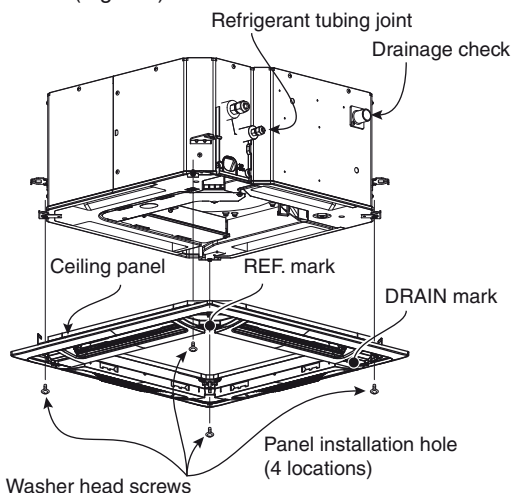

Fig. 7-8
- (2) Align the panel installation holes and the unit screw holes.
- (3) Tighten the supplied washer head screws at the 4 panel installation locations so that the panel is attached tightly to the unit. (Fig. 7-8)